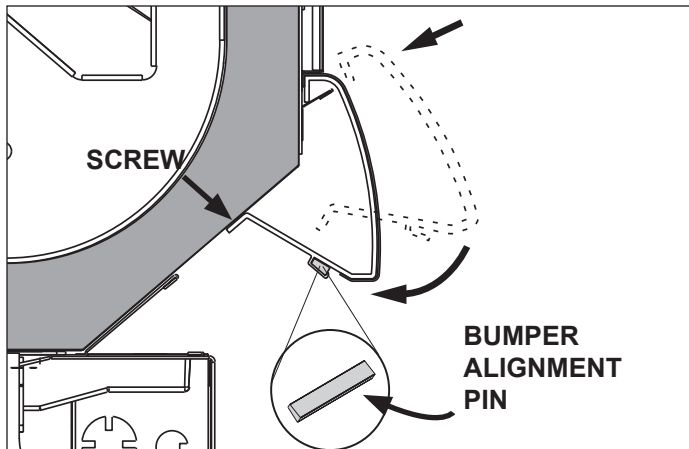

Fig. 7 Streamlyne bumper alignment pin
5. Place the hook of the Streamlyne bumper on the lip of the master bumper bracket and rotate the bumper down while pushing it in (Fig. 7). When the top edge of the bumper has slipped under the color band, be certain that it is pushed in as far as it will go.